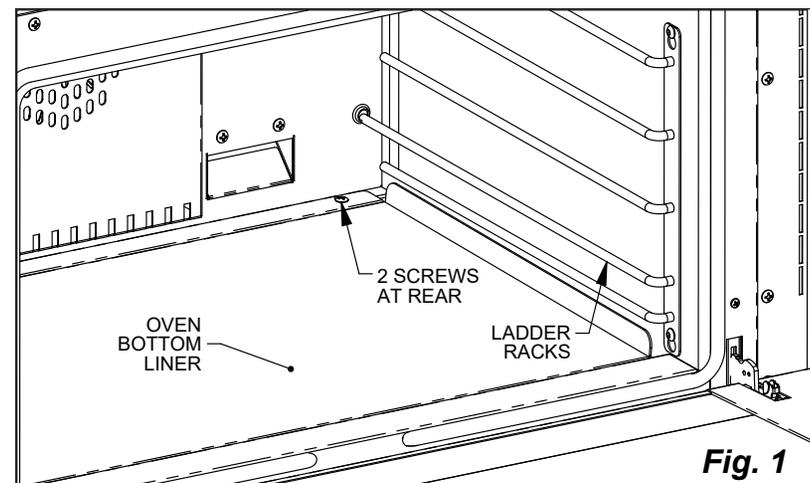

Fig. 1
3. Remove 2 screws at the rear of the oven holding down the oven bottom liner. Insert a thin-bladed flat screwdriver at the front edge of the liner and pry up carefully. Remove this liner and set aside. (Fig. 1)